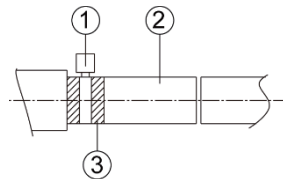
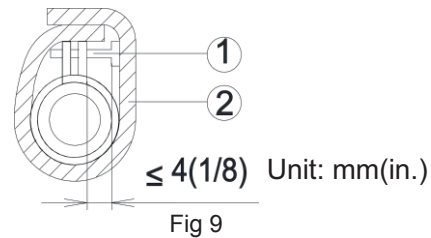

Fig 8
Fig 9
1. Insert the drain hose into the drain hole and tighten it with tapes, as shown in Fig 8.
① metal clamp(accessory)
② drain hose(accessory)
3. Use sealing plate to make the pipe clamp and hose insulated, as shown in Fig.9.
② thermal sponge(accessory)